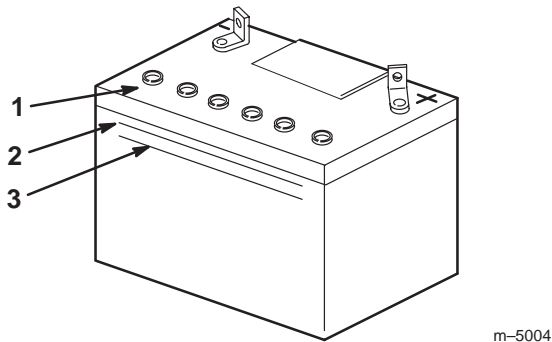

Figure 61
3. Look at the side of the battery. The electrolyte must be up to the **upper** line (Fig. 61).
Note: Do not allow the electrolyte to get below the **lower** line (Fig. 61).
3. Remove the vent caps from the battery (Fig. 61).
4. Slowly pour distilled water into each battery cell until the level is up to the **upper** line (Fig. 61) on the battery case.
5. Wait 5 to 10 minutes after filling the battery cells, then add distilled water, if necessary, until the electrolyte level is up to the **upper** line (Fig. 61) on the battery case.